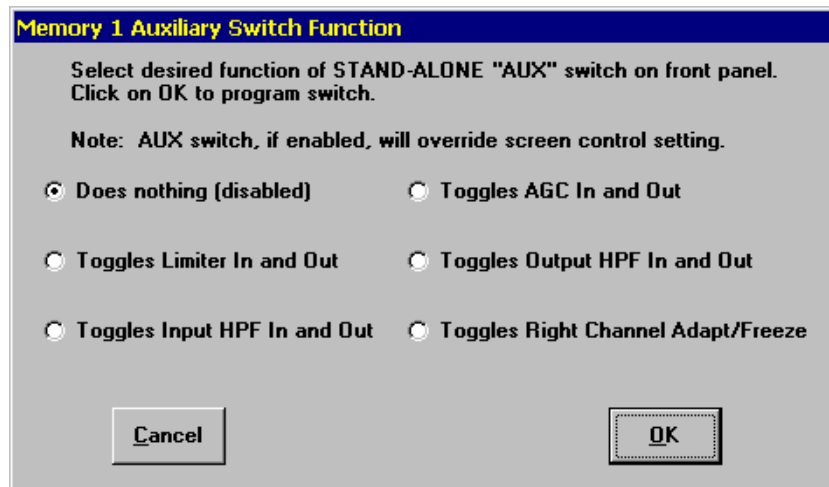

Figure 4-67 Auxiliary Switch Function Window
3. Click on the selected memory. The following window (Figure 4-67) will now appear: